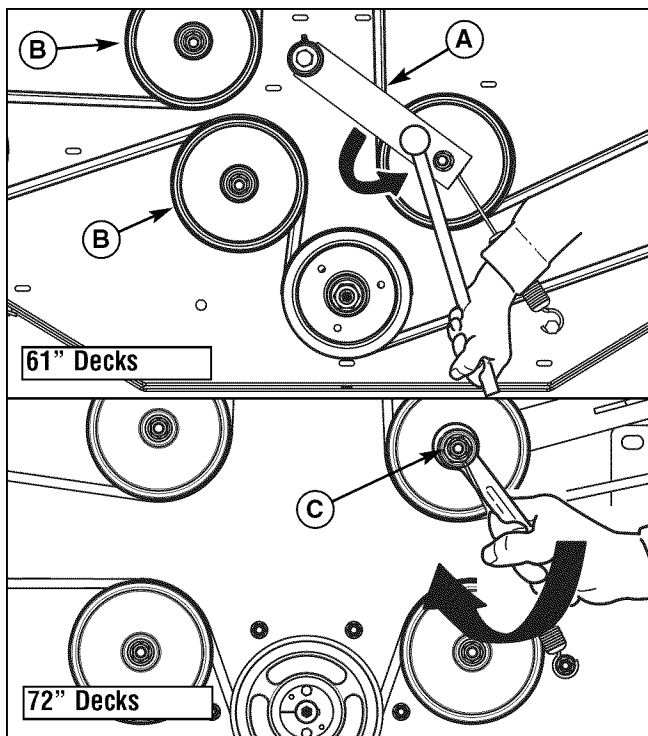

Figure 42. Mower PTO Belt
3. **For 61" Decks:** Using a 1/2" breaker bar, place the square end in the square hole located in the end of the idler arm (A, Figures 42). Carefully rotate the breaker bar COUNTER-CLOCKWISE, which will relieve the tension on the belt exerted from the idler arm.
**For 72" Decks:** Using the 3/4" combination wrench, place the box end on the nut (A, Figure 42) that secures the idler pulley located at the end of the idler arm. Carefully rotate the wrench COUNTER-CLOCKWISE, which will relieve the tension on the belt exerted from the idler arm.
6. **For 61" Decks:** Install the drive belt on the PTO pulley, the spindle pulleys and all idler pulleys except the stationary pulley (B, Figure 42). Carefully rotate the breaker bar COUNTER-CLOCKWISE and install the belt on the stationary idler pulley (B). Carefully release the tension on the breaker bar.
**For 72" Decks:** Install the drive belt on the PTO pulley, the spindle pulleys and all idler pulleys except the stationary pulley (B, Figure 42). Carefully rotate the combination wrench COUNTER-CLOCKWISE and install the belt on the stationary idler pulley (B). Carefully release the tension on the combination wrench.